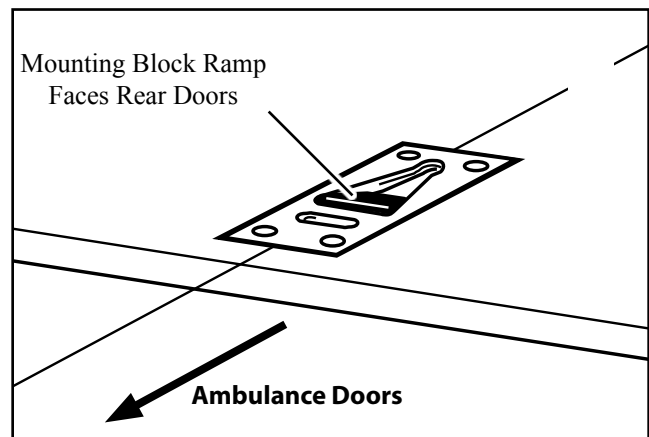

Figure 9 - Installing the Mounting Blocks
Note: Refer to Figure 9 for these instructions.
1. Place the mounting block in the mounting block cavity, with the ramp toward the door (Figure 9) and test the fit.